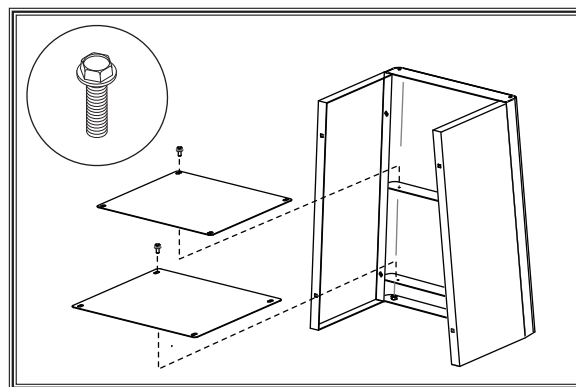

Figure 6. Shelf installation.
2. Fasten the upper and lower shelves, as shown in **Figure 6**, using (8) M6-1 x 12 flange bolts.